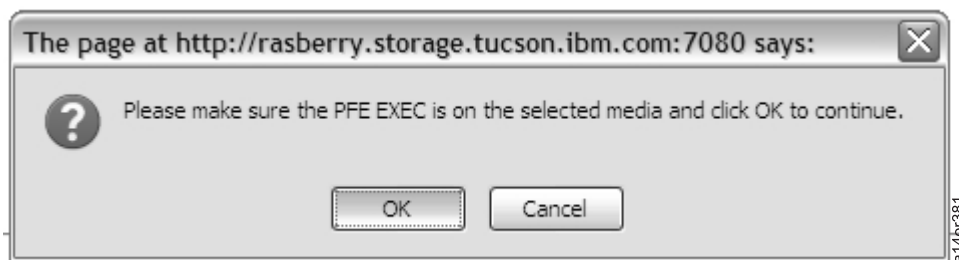

Figure 3-104. PFE Exec Patch
8. You see the window in Figure 3-104 which prompts you to verify that the PFE EXEC patch is on the selected media. Select **OK**.